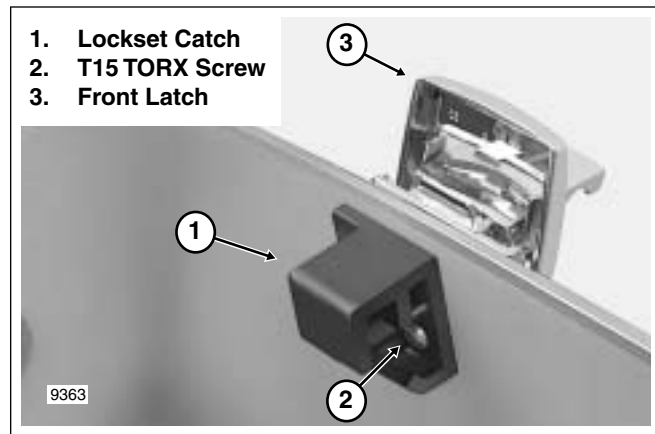

Figure 2-153. Front Latch Assembly
2. Remove two T15 TORX screws to release front latch, spacer and lockset catch from Tour-Pak. See Figure 2-153.
5. Slide two long T15 TORX screws through holes in lockset catch. From inside Tour-Pak, slide screws through front holes on right side of Tour-Pak. Properly oriented, flat side of lockset catch should be topside. See Figure 2-153.